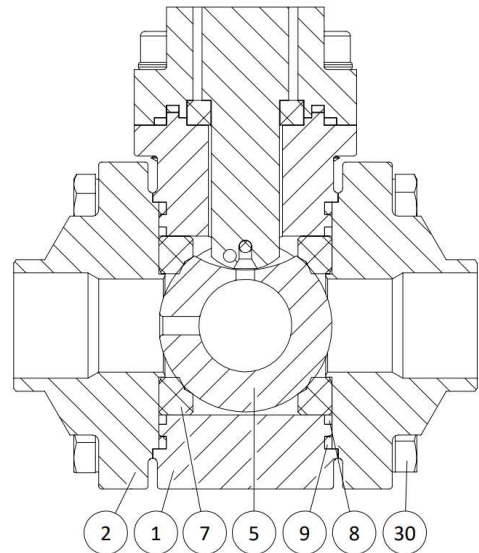

Figure 5 – Ball and internal seals assembly
10. Rotate the stem (6) to the **CLOSED** position, as indicated in the Figure 5 – Ball and internal seals assembly, and introduce the ball (5) into the body (1). Note that the ball/stem connection has only one position;
12. Place the body seals (8/9) and the seats (7);
13. Place the end connections (2) and tighten the bolting (30) according to Table 6 – Body bolting system Torque [Nm];